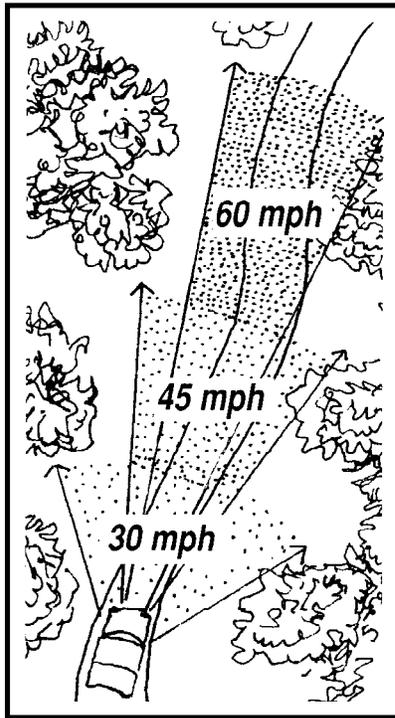

Figure TH-1: Travel speed affects apparent field of vision and observation time.
- Travel speed affects the apparent field of vision and the observation time, which impact the users' levels of concern. See Figure TH-1.